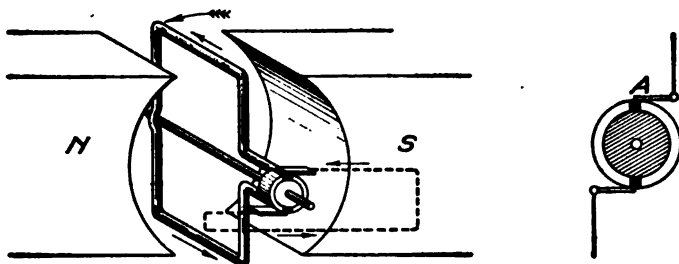
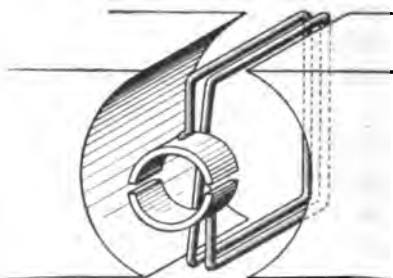
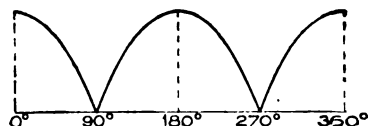

Fig. 19. Simple Form of Generator Showing Arrangement of Brushes in Contact with Commutator
Fig. 20. Commutator with Double Turn
Fig. 21. E. M. F. Curve with Commutator
**Commutators.** Fig. 19 illustrates a commutator in its simplest form. It may be imagined as consisting of a small brass tube which has been sawed in two longitudinally, the halves being mounted
on a wooden rod. The wood and the two cuts in the tube insulate the halves from each other. Each one of these halves is connected to one terminal of the loop, as shown in the illustration, Fig. 20. Against this commutator, Fig. 19, two brushes bear at opposite points and lead the current due to the generated e.m.f. to the external circuit. If these brushes are so set that each half of the split tube moves out of contact with one brush and into contact with another at the instant when the loop is passing through the positions where the rate of cutting is minimum (as indicated in the enlarged end view of the commutator shown at *A*), a unidirectional current will be produced, but it will be of the pulsating character as indicated by the curve for one cycle shown in Fig. 21.